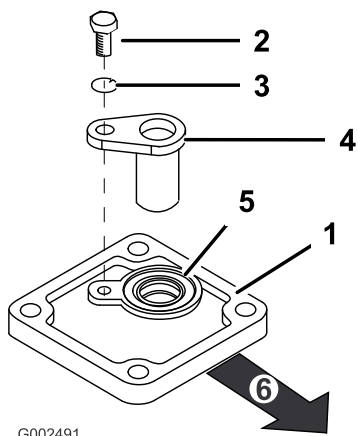

Figure 6
- Install the new cover assembly to the transaxle using the four bolts removed in Step 1 (Figure 6). The correct orientation of the cover will have the seal facing up and positioned toward the left hand side of the vehicle.
4. Install the geartooth sensor using the screw (M6 x 1.00 x 12) and spring washer (M6) as shown in Figure 6.